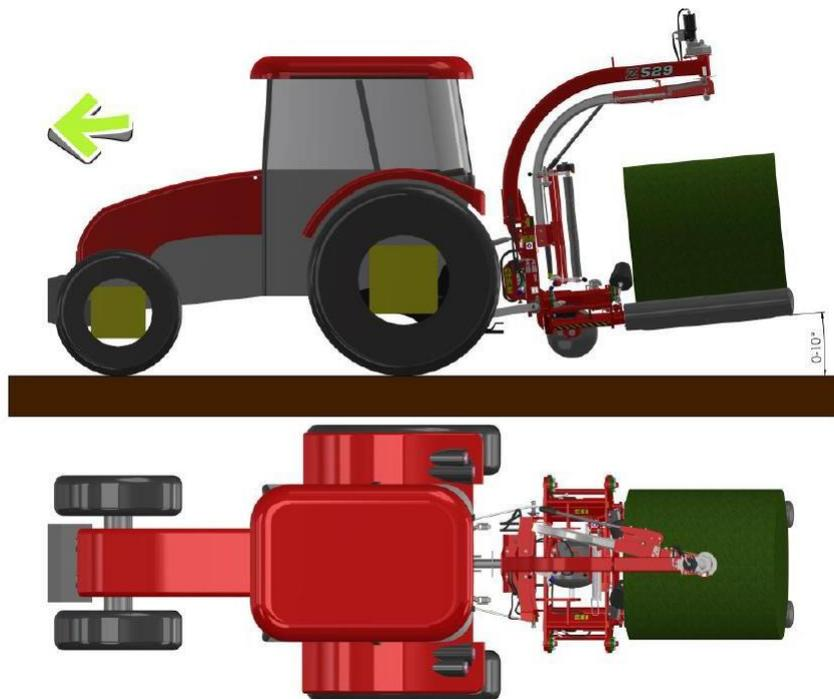

Figure 17. Position during wrapping up a bale
4. Lift the wrapper to the position of bale wrapping (Fig. 17) Press the **START/STOP** push button to commence the automatic wrapping process. Once the wrapping operation is complete, the film will be cut automatically.